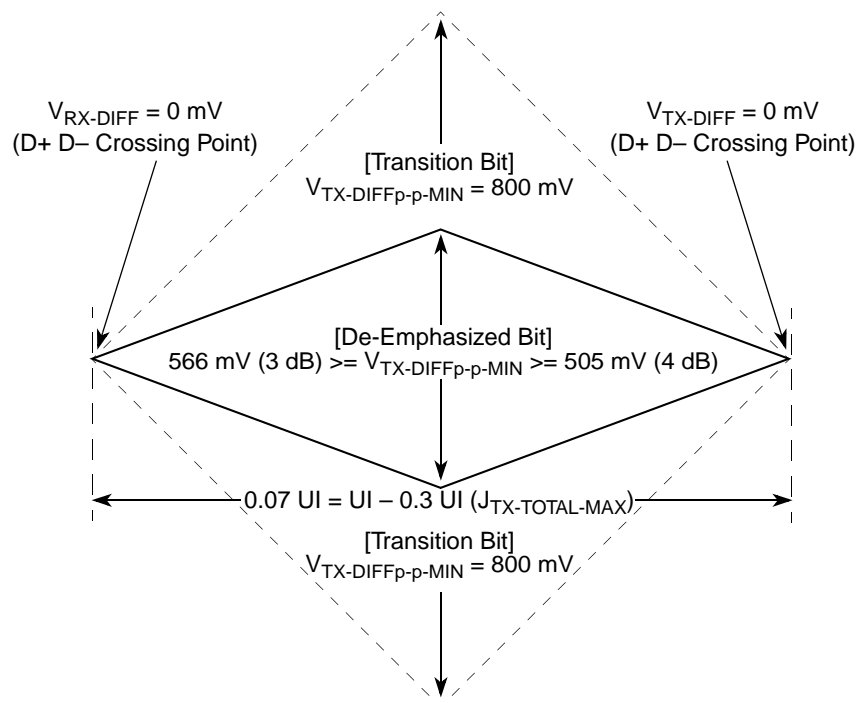
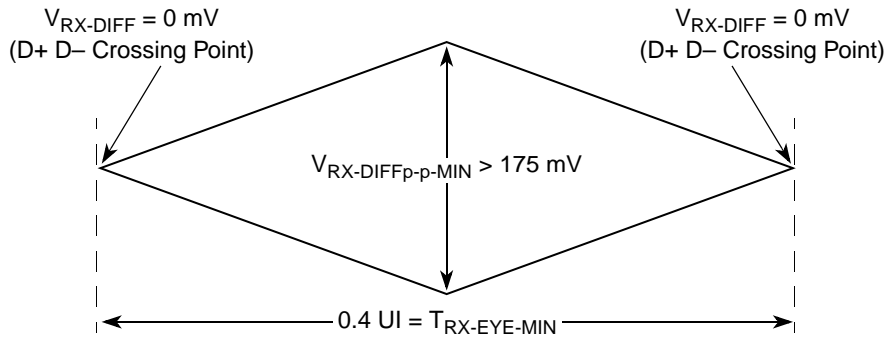
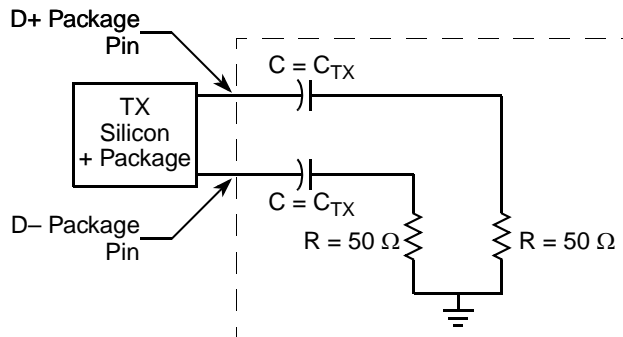

Figure 56. Minimum Transmitter Timing and Voltage Output Compliance Specifications
Figure 57. Minimum Receiver Eye Timing and Voltage Compliance Specification
Figure 58. Compliance Test/Measurement Load
2. Specified at the measurement point into a timing and voltage compliance test load as shown in Figure 58 and measured over any 250 consecutive TX UIs. (Also refer to the transmitter compliance eye diagram shown in Figure 56.)
4. The transmitter input impedance shall result in a differential return loss greater than or equal to 12 dB and a common mode return loss greater than or equal to 6 dB over a frequency range of 50 MHz to 1.25 GHz. This input impedance requirement applies to all valid input levels. The reference impedance for return loss measurements is 50  $\Omega$  to ground for both the D+ and D- line (that is, as measured by a vector network analyzer with 50- $\Omega$  probes—see Figure 58.) Note that the series capacitors  $C_{\text{TX}}$  is optional for the return loss measurement.
5. Measured between 20%–80% at transmitter package pins into a test load as shown in Figure 58 for both  $V_{\text{TX-D+}}$  and  $V_{\text{TX-D-}}$ .
The TX eye diagram in Figure 56 is specified using the passive compliance/test measurement load (see Figure 58) in place of any real PCI Express interconnect +RX component.
2. Specified at the measurement point and measured over any 250 consecutive UIs. The test load in Figure 58 should be used as the RX device when taking measurements (also refer to the receiver compliance eye diagram shown in Figure 57). If the clocks to the RX and TX are not derived from the same reference clock, the TX UI recovered from 3500 consecutive UI must be used as a reference for the eye diagram.
4. The receiver input impedance shall result in a differential return loss greater than or equal to 15 dB with the D+ line biased to 300 mV and the D– line biased to –300 mV and a common mode return loss greater than or equal to 6 dB (no bias required) over a frequency range of 50 MHz to 1.25 GHz. This input impedance requirement applies to all valid input levels. The reference impedance for return loss measurements for is 50  $\Omega$  to ground for both the D+ and D– line (that is, as measured by a vector network analyzer with 50- $\Omega$  probes, see Figure 58). Note that the series capacitors CTX is optional for the return loss measurement.
The RX eye diagram in Figure 57 is specified using the passive compliance/test measurement load (see Figure 58) in place of any real PCI Express RX component.
In general, the minimum receiver eye diagram measured with the compliance/test measurement load (see Figure 58) will be larger than the minimum receiver eye diagram measured over a range of systems at the input receiver of any real PCI Express component. The degraded eye diagram at the input receiver is due to traces internal to the package as well as silicon parasitic characteristics which cause the real PCI Express component to vary in impedance from the compliance/test measurement load. The input receiver eye diagram is implementation specific and is not specified. RX component designer should provide additional margin to adequately compensate for the degraded minimum receiver eye diagram (shown in Figure 57) expected at the input receiver based on some adequate combination of system simulations and the return loss measured looking into the RX package and silicon. The RX eye diagram must be aligned in time using the jitter median to locate the center of the eye diagram.
The reference impedance for return loss measurements is 50 Ω to ground for both the D+ and D– line (that is, as measured by a vector network analyzer with 50-Ω probes, see Figure 57). Note that the series capacitors, CTX, are optional for the return loss measurement.
The AC timing and voltage parameters must be verified at the measurement point, as specified within 0.2 inches of the package pins, into a test/measurement load shown in Figure 58.